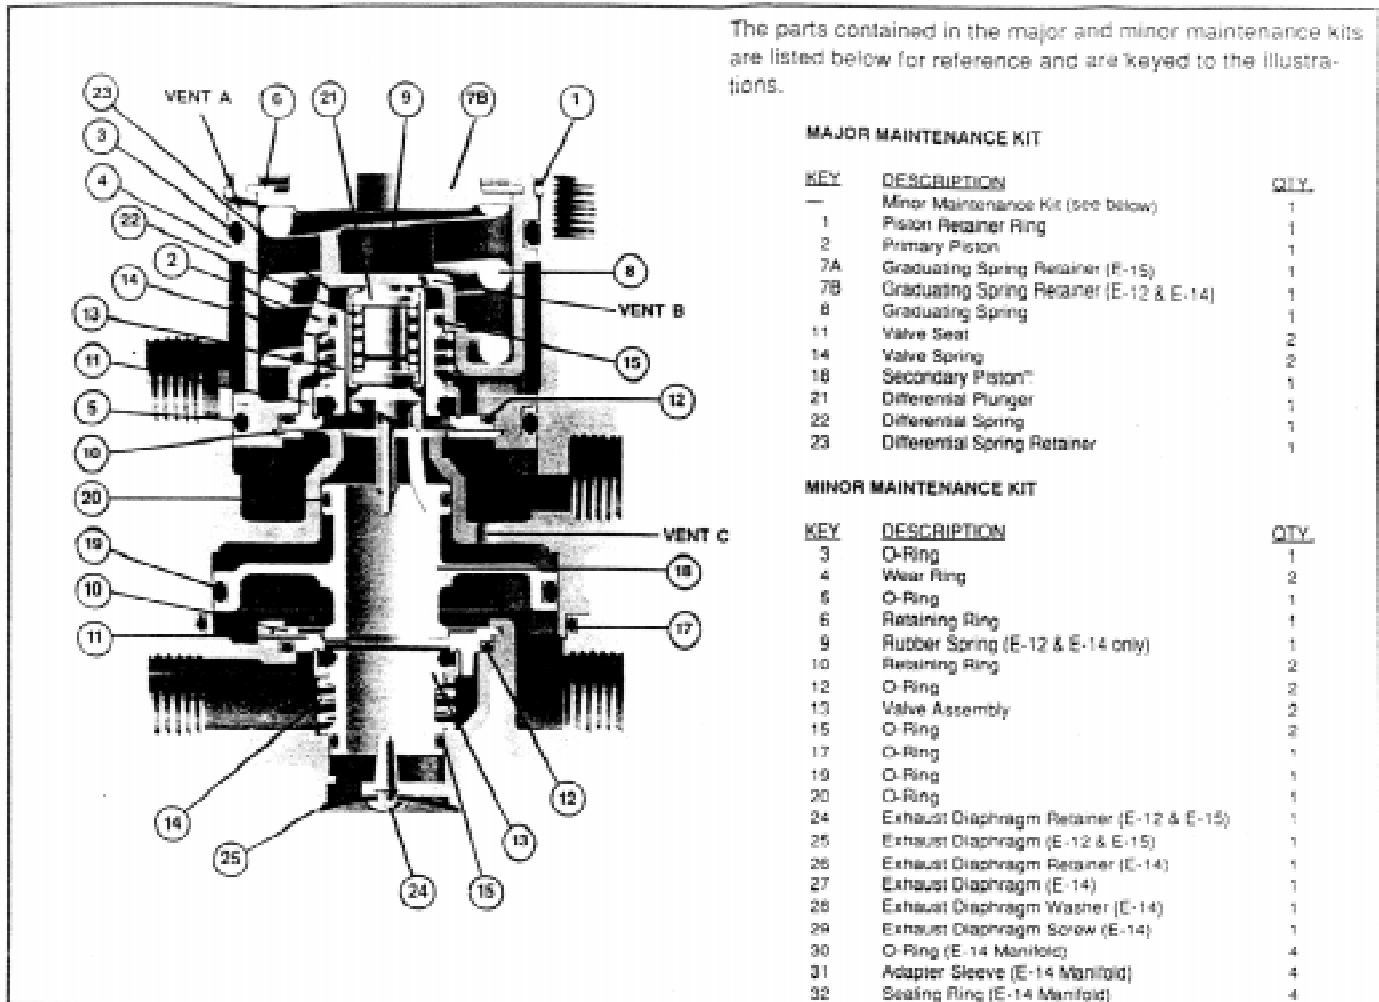

Figure 4
4. If primary piston(2) is to be reused make certain that vents "A & B" are open and free of obstructions. (See Fig. 4)
5. Make certain vent "C" is open in the upper body of the valve. (See Fig. 4)
1. EXCEPT FOR THE SECONDARY PISTON(18) O-RINGS use the silicone lubricant provided in this kit (650-M) and lightly coat all o-rings, o-ring bores and grooves. Lightly lubricate primary piston(2) bore into which graduating spring(8) is installed. With the 328-M lubricant, lightly coat o-rings(19 and 20) and o-ring grooves of the secondary piston(18).
2. Place primary piston(2) on a flat surface and install rubber spring(9) and metal graduating spring(8). **NOTE:** The rubber spring(9) is used in the E-12 and E-14 brake valves only. If a rubber spring was not removed in disassembly step 13, discard this component. **DO NOT INSTALL RUBBER SPRING(9) IF THE VALVE IS AN E-15 BRAKE VALVE. CAUTION: Two spring retainers are provided in the major kit. Refer to the illustrations to determine the proper spring retainer to use. Installation of the incorrect spring retainer will alter the application characteristics of the brake valve.**
3. Install the proper graduating spring retainer(7) on top of graduating spring(8), making certain that the side with the high, circular protrusion is away from the spring.
4. Manually depress and hold spring retainer(7) in piston(2), then install retaining ring(6), making certain it is completely seated in its groove in the piston(2).
5. Install o-rings(15) on both valve assemblies(13).
6. Install valve spring(14) in piston(2), then install valve assembly(13) in spring(14).
7. Install o-ring(12) on valve seat(11), then install valve seat(11) on valve assembly(13). Gently depress and hold valve seat in piston(2) while installing retaining ring(10). **IMPORTANT:** Inspect retaining ring(10) to ensure that it is completely seated in its groove in piston(2).
8. Install o-rings(3 and 5) on primary piston(2). Install wear rings(4) in the o-ring grooves next to the o-rings. Make certain that one flange of wear ring(4) is in the o-ring groove, while the opposite flange extends away from the end of the piston(2) and toward the center. The wear ring flange **MUST NOT COVER OR OVERLAP EITHER O-RING**. Refer to Fig. 4 and note positions of items 3, 4, and 5.
9. Carefully insert assembled primary piston(2), valve end first, into the upper valve body until the piston retaining ring groove in the body is visible. Make certain o-rings (3 and 5) and wear rings(4) are not damaged in the process. Do not force the piston. If substantial resistance is encountered, re-check wear ring installation.
10. Install piston retaining ring(1) in its groove in the upper body, making certain it is fully seated in the groove.
11. If minor kit is being installed, proceed to step 12. Install plunger(21) in its spring(22). While manually depressing and holding the plunger and spring on piston(18) slide retainer(23) into place so that it secures both the plunger and spring to piston (18). Make certain both retainer flanges are securely installed around the piston lip and plunger groove.
13. This step refers to the E-12 and E-15 brake valves. Proceed to step 14 if the E-14 brake valve is being serviced. Install exhaust diaphragm(25) on the lower body and secure it using diaphragm retainer(24.) **NOTE:** Some E-12 and E-15 brake valves have threaded exhaust ports instead of items 24 and 25.
14. This step refers to the E-14 brake valve and should be disregarded when servicing either the E-12 or E-15. Press diaphragm retainer(26) into the lower body. Install exhaust diaphragm(27) and diaphragm washer(28) and secure them on retainer(26) with screw(29). **NOTE:** If the threaded exhaust port is used discard items 26, 27, 28 and 29.
15. Install valve spring(14) in the lower body, then install valve assembly(13) in the spring.
16. Install o-ring(12) on valve seat(11), then install the valve seat on valve assembly(13). Gently depress and hold the valve seat in the lower body while installing retaining ring(10). **IMPORTANT:** Make certain retaining ring(10) is completely seated in its groove in the lower body.
17. Install assembled secondary piston(18) in the upper body making certain that o-rings 19 and 20 are not damaged in the process.
18. Install o-ring(17) on the upper body. Join the assembled upper and lower body halves noting the relationship marked in DISASSEMBLY, Step 2. Secure using four, 1/4" cap screws(16). Torque to 30 to 60 pound inches.